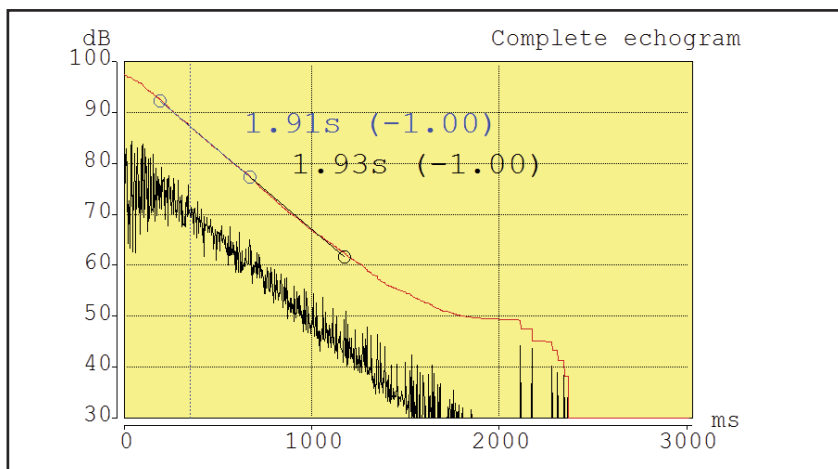

Figure 2: In this computer-generated RT graph, the ragged black line is the decaying random noise signal. The smooth lines represent T15 (blue) and T30 (black).
**Figure 2** shows the Schroeder curve created with a computer analysis of a room’s impulse response. (The Schroeder curve is obtained by reverse-integrating the decay curve, and is the actual curve used for RT determination, since it is smoother than the decay curve, due to the small bumps and dips being averaged out by this mathematical operation.) The short blue line from the left circle marker to the center one is the